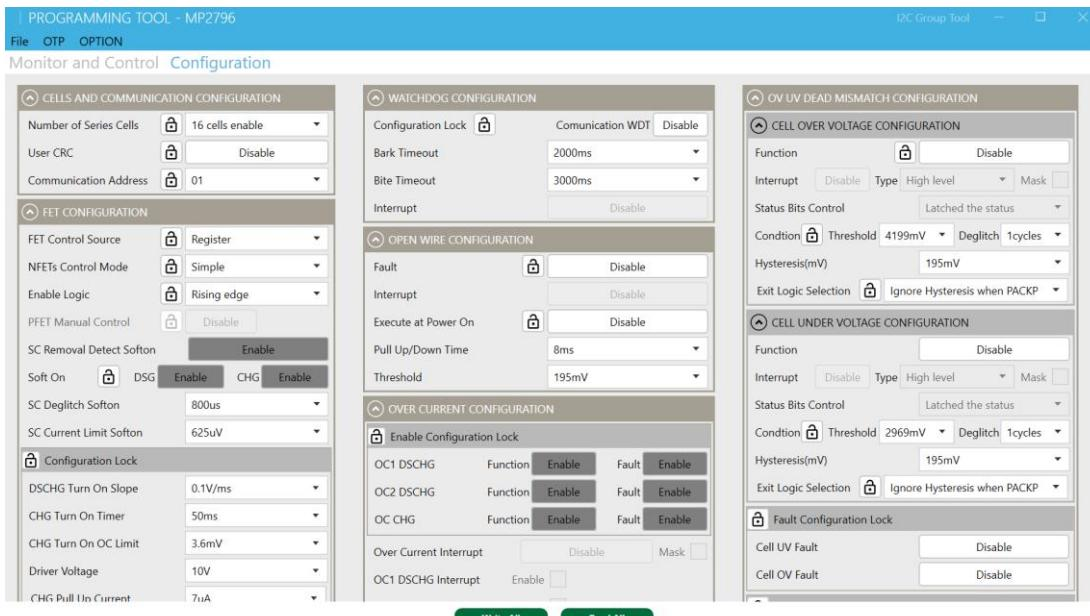

Figure 14: OTP and MTP View
4. In OTP and MTP view, all parameters that are not relevant to OTP and MTP cannot be modified. Any other parameters can be adjusted as necessary (see Figure 14).